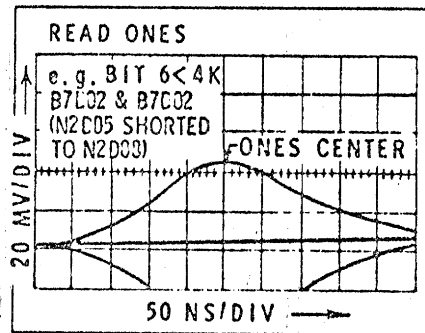
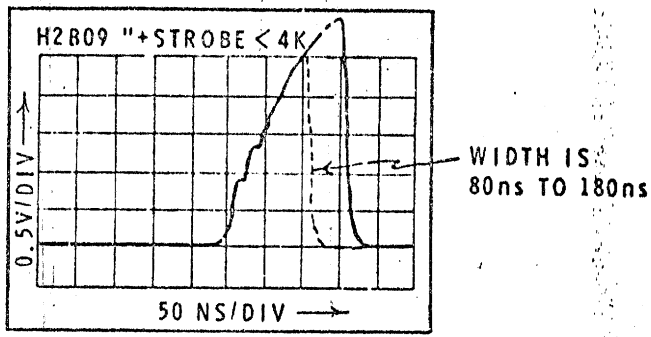

FIGURE 2
FIGURE 3
2. SHORT N2B05 TO N2D08 TO REMOVE STROBE REFLECTION, THEN ADJUST THE CENTER OF THE ONES ENVELOPE AT READ TIME TO THE CENTER VERTICAL LINE. CENTER MAY BE DETERMINED BY ADJUSTING THE SCOPE TO PLACE THE RISE AND FALL OF THE ONES ENVELOPE AT ± 50 NS ON THE SAME HORIZONTAL LINE. SEE FIGURE 2. AT LEAST TWO BITS SHOULD BE OBSERVED TO DETERMINE THE AVERAGE TIME FOR THE CENTERS, e.g. BIT 6 < 4K: B7B02 AND B7D02 (4K), BIT 6 > 4K: A7B02 AND A7D02 (8K) OR BIT 14 < 4K: M7B02 AND M7D02 (4K) AND BOTH POSITIVE AND NEGATIVE CENTERS SHOULD BE OBSERVED.
4. ADJUST THE POTENTIOMETER ON CARD N2 TO PLACE THE LEADING EDGE OF THE "+ STROBE LESS THAN 4K" (MEASURED AT THE 0.5V LEVEL WITH RESPECT TO ITS BASELINE) 10 NANoseconds LATER THAN THE THE ONES ENVELOPE. SEE FIGURE 3.
5. RECORD ON THE LABEL THE INTERVAL BETWEEN THE CENTERS OF THE ONES ENVELOPE (FIGURE 2) AND THE LEADING EDGE OF THE STROBE (MEASURED AT THE 0.5V LEVEL WITH RESPECT TO ITS BASELINE - FIGURE 3).